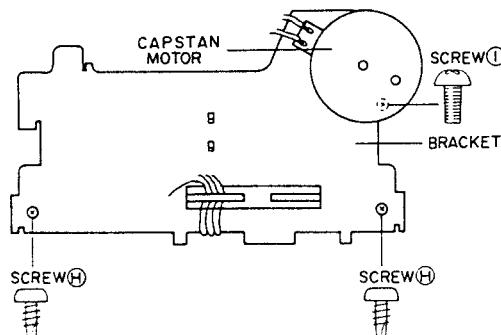

Fig. 3-8
- 1) Remove the side plate retaining screw ⑥ and then remove the side plate.
- 2) Remove the bracket retaining screw ⑩ and then remove the bracket. (Refer to Fig.3-8).